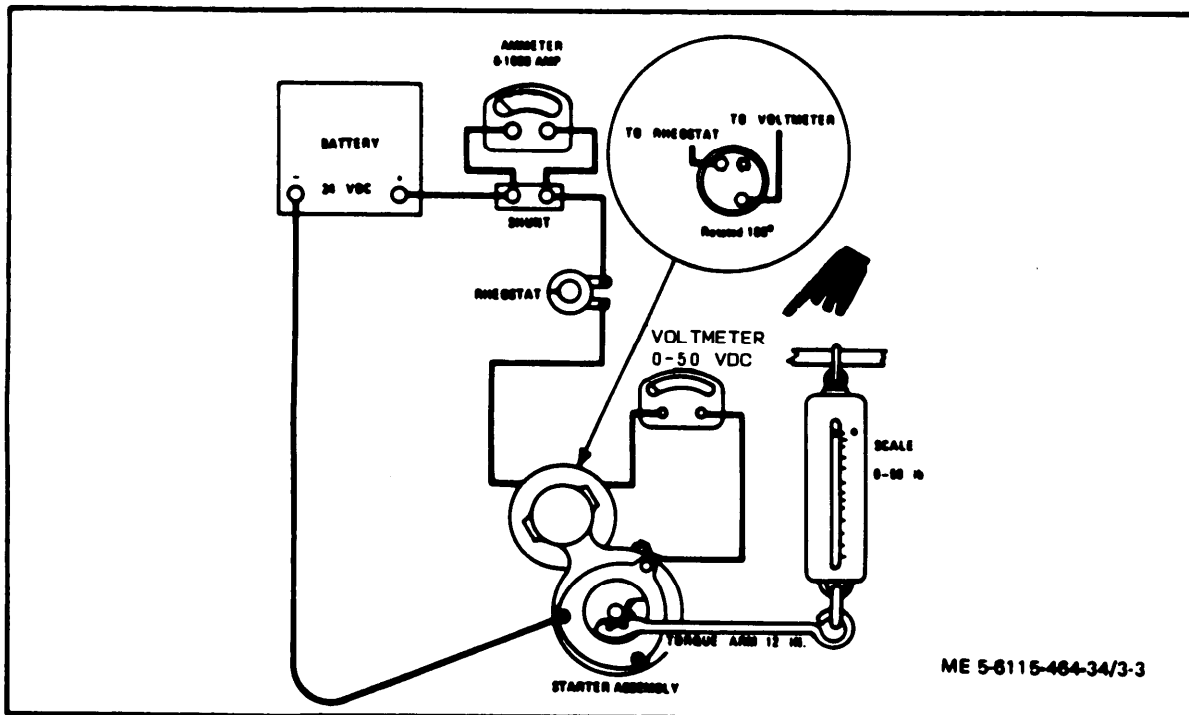

Figure 3-3. Starter Assembly Stalled Torque Setup
(a) Install starter assembly in test setup shown in figure 3-3.
(1) Remove nut (1, figure 3-3. 1), lockwasher (2), nut (3) and lockwasher (4).
(2) Loosen clamp (5) and remove screws (6) to remove solenoid assembly (7) from starter assembly.
(3) Remove boot (8) and clamp (5).